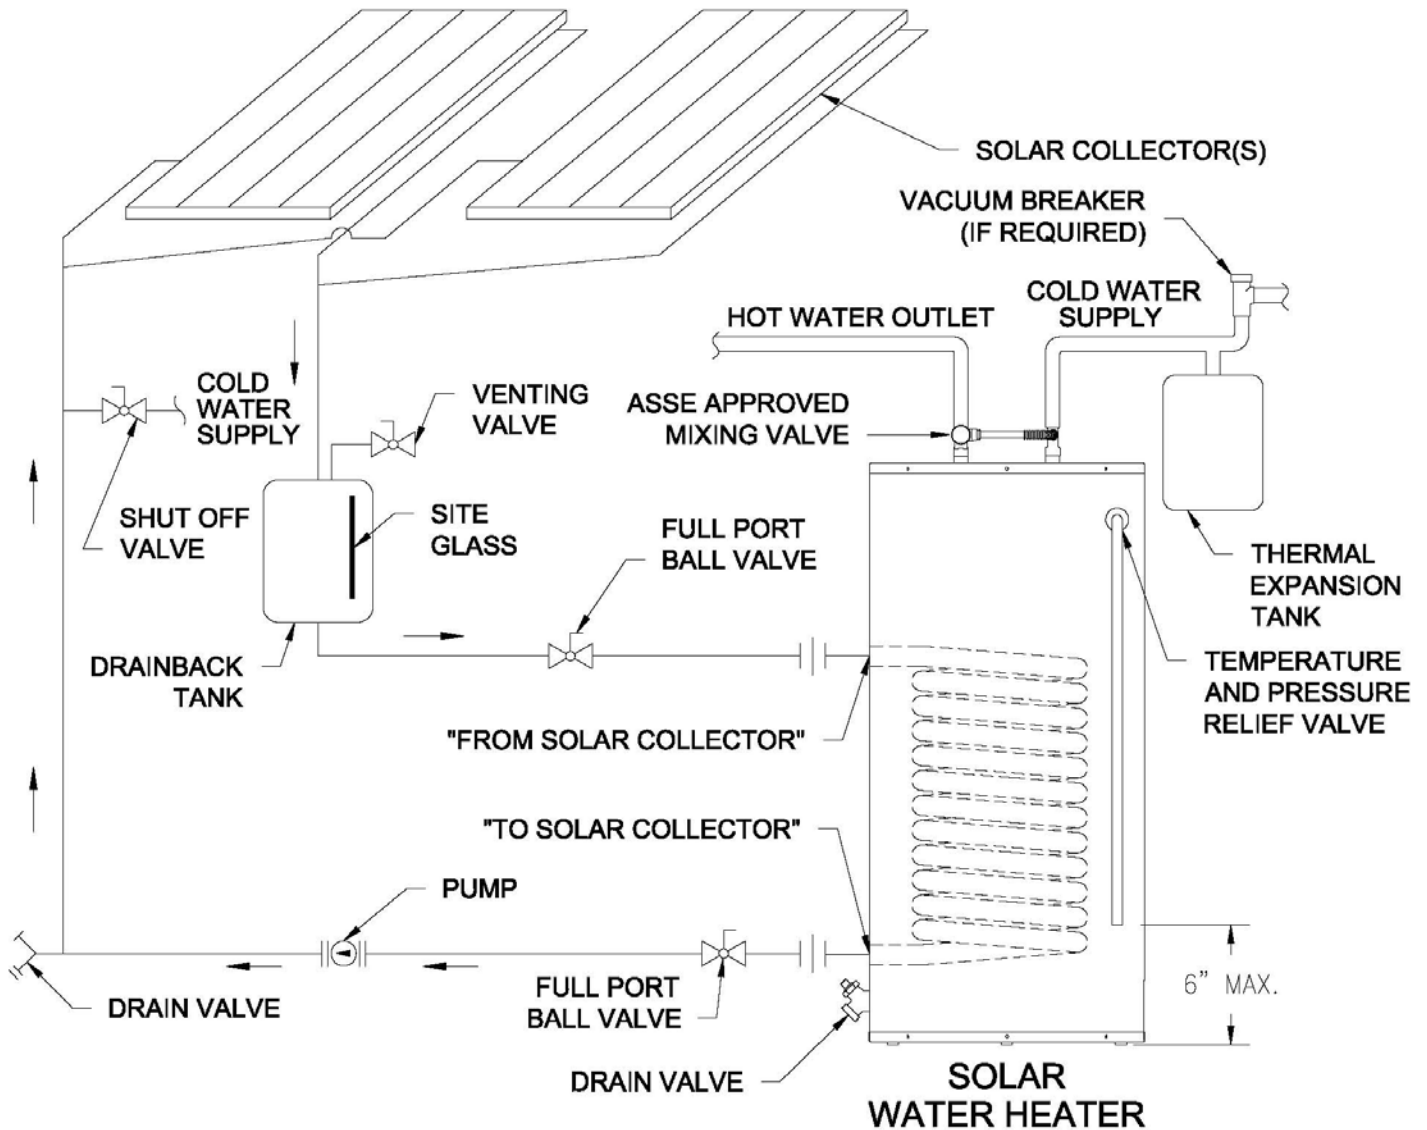

Figure 4 - Solar Collector Piping in Drainback Installation
- For a drainback solar heating system, refer to Figure 4. The solar water heater connection labeled "FROM SOLAR COLLECTOR" should be piped to the solar collector supply piping. Mount the pump making sure the flow arrow points toward the water heater. The use of shut-off valves and unions are recommended for future service convenience. Pipe and fittings between the solar collector and solar water heater must be $\frac{3}{4}$ " diameter or larger. The drainback tank must be located at a level above the pump and water heater. A site glass should be installed either on the tank or in piping at the same level as the tank to determine fluid level within the system when not heating. Verify that all check valves are removed from the solar heating system including components such as the pump. Also verify that all heating fluid drains from the collectors and piping through a suitable pitch in the lines.